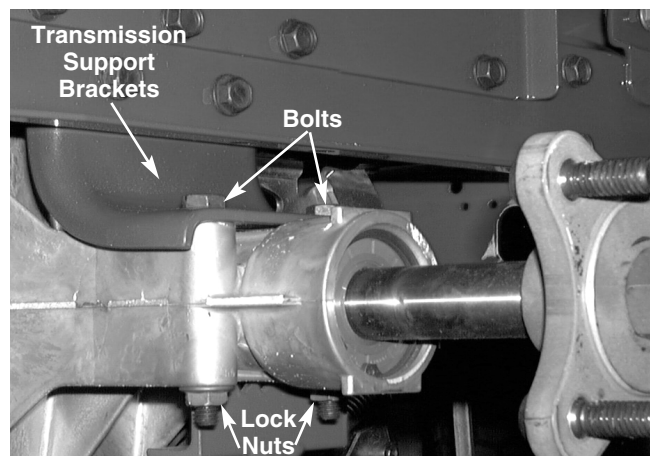

FIGURE 8.
24. Remove all four of the hex bolts and lock nuts securing the hydrostatic transmission to the side transmission support brackets using a 1/2" socket and a 1/2" wrench. See figure 8.